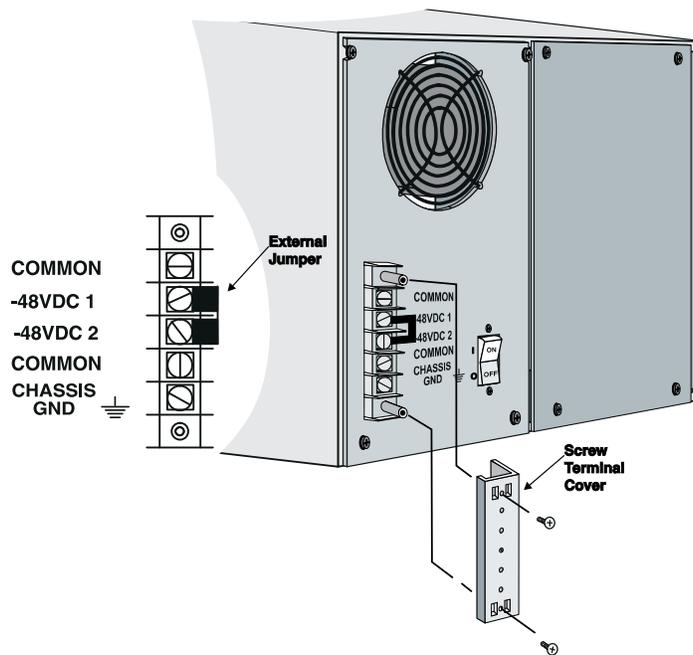

Figure 29. Rear of DC Chassis
To provide power to the DC chassis, you must connect your DC power source to the terminals at the rear of the chassis. As shown in Figure 29, the five terminal lugs are shielded with a plastic cover, held in place by two screws.
- 1 Check to be sure that you have a DC chassis, with the terminal block shown in Figure 29. Placing a DC PSU into an AC chassis may blow a fuse and will not provide power to the system.